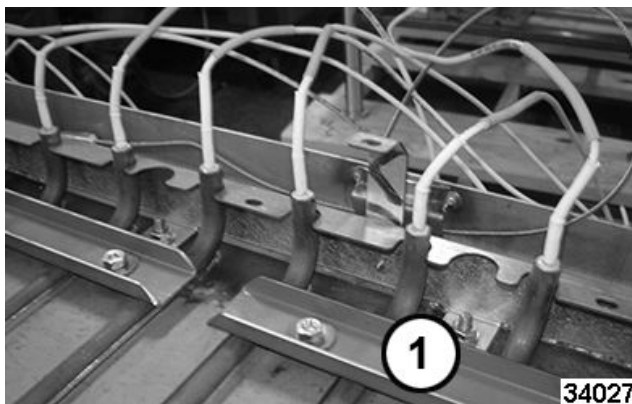

Fig. 48
5. Remove bracket (1, Fig. 48) for heating element to be serviced.